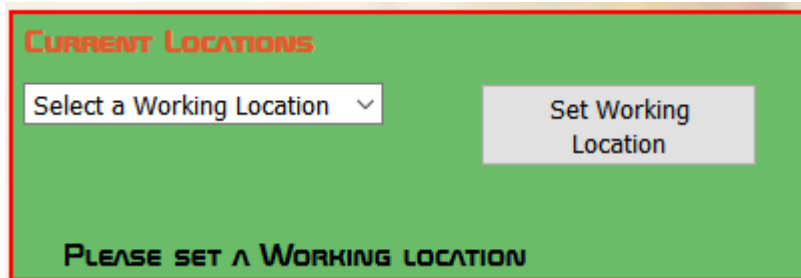

Fig. 3
1. After adding your first location the Set Your Working Location feature will become available to you. (See fig. 3)